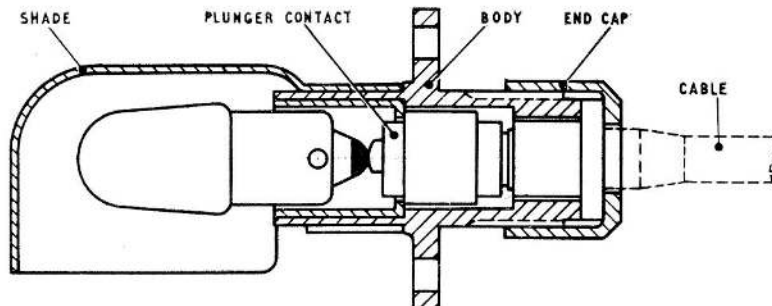

Fig. 1. Sectional view
2. A sectional view is given in fig. 1. The lampholder forms an integral part of the lamp body and contains a spring loaded plunger contact to which connection to the external supply is made. The connection is a soldered joint, the cable being held tight when the screwed end cap is tightened.